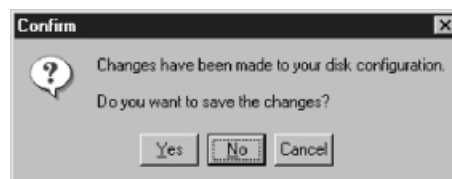

Fig. 7 Confirmation dialog box
3. When [Commit changes Now] is clicked on the [Partition] menu, the confirmation dialog box shown in Fig. 7 appears. Click [Yes].
3. When [Commit changes now] is clicked on the [Partition] menu, the confirmation dialog box shown in Fig. 7 appears. Click [Yes].